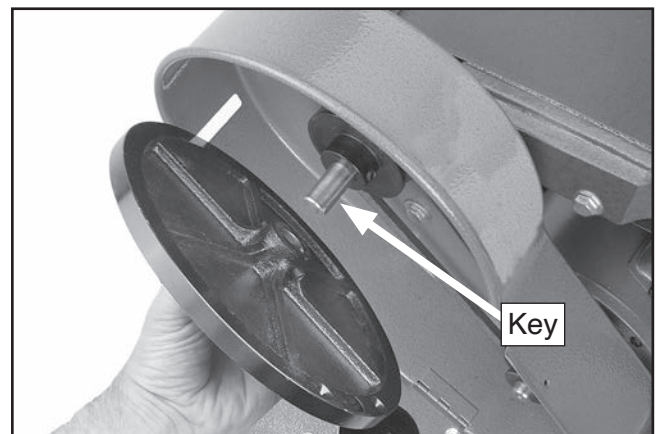

Figure 29. Installing plate onto drive shaft.
21. Align the keyway on the plate with the drive shaft key, then slide the plate onto the shaft, as shown in **Figure 29**.